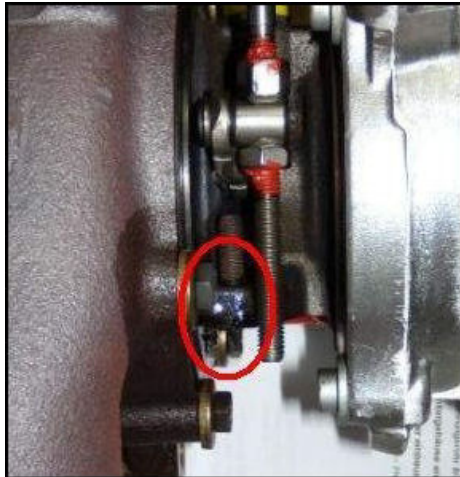

Figure 5
- Inspect the turbo charger to see whether the stud with clamp nut is broken (Figure 5).